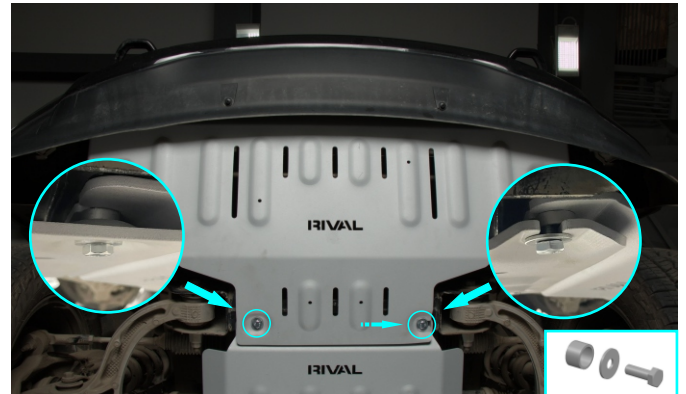

Fig. 14
14. Install bolts M10x50 with flat washers and spacers 8 mm (items C, F, I) into joint skid plates as shown in fig.14.